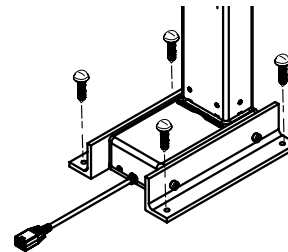

Figure 1
- ② Mount lifting column, control box and projector shelf assembly to mounting bracket inside cabinetry (see Fig. 1).